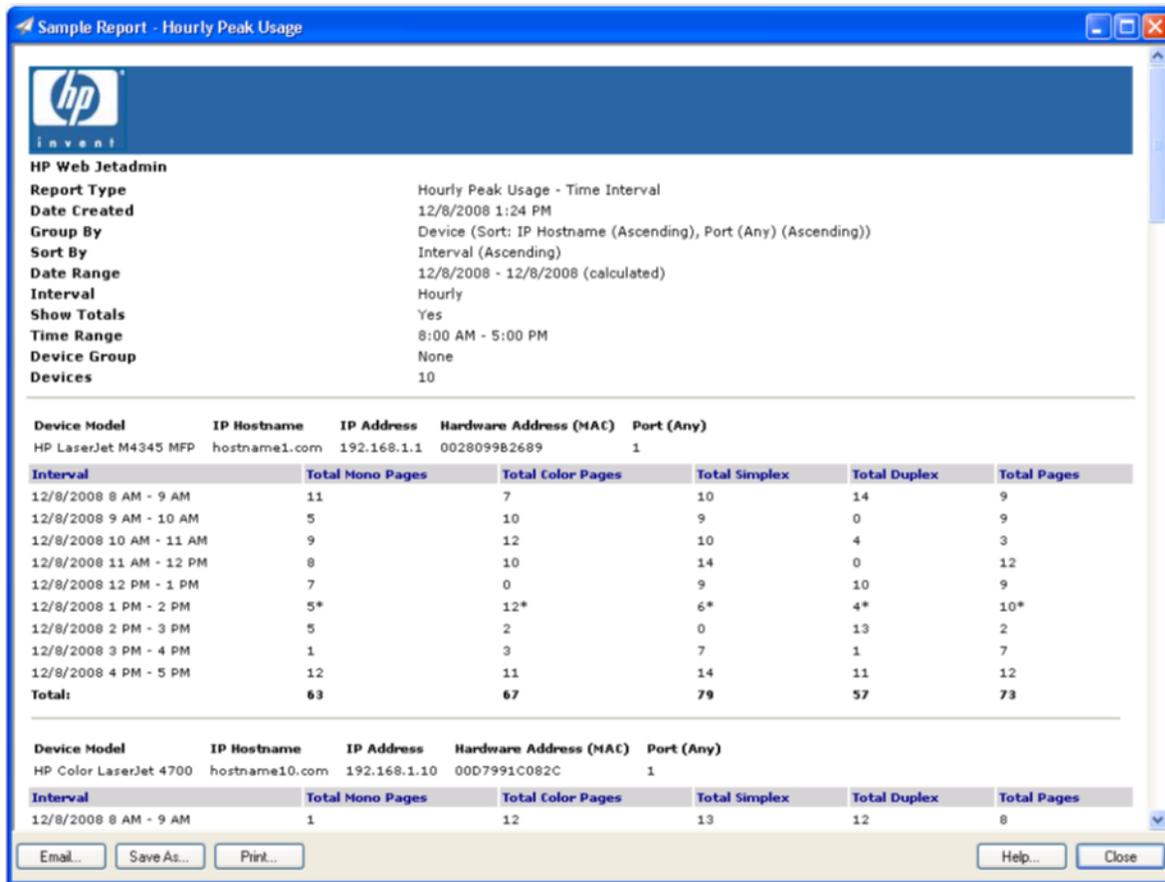

Figure 32: Hourly Peak Usage report
- Under **Report Data**, select the specific data relating to the hourly usage that appears as columns in the report (Figure 32). All page counts are totals within the date range of the report. These values (defined in Accessory Inventory report on page 22) include: